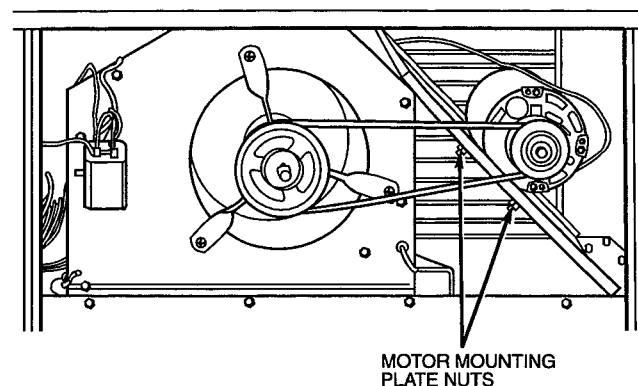

Fig. 25 — Belt Drive Motor Mounting
2. Loosen belt by loosening fan motor mounting nuts. See Fig. 25.